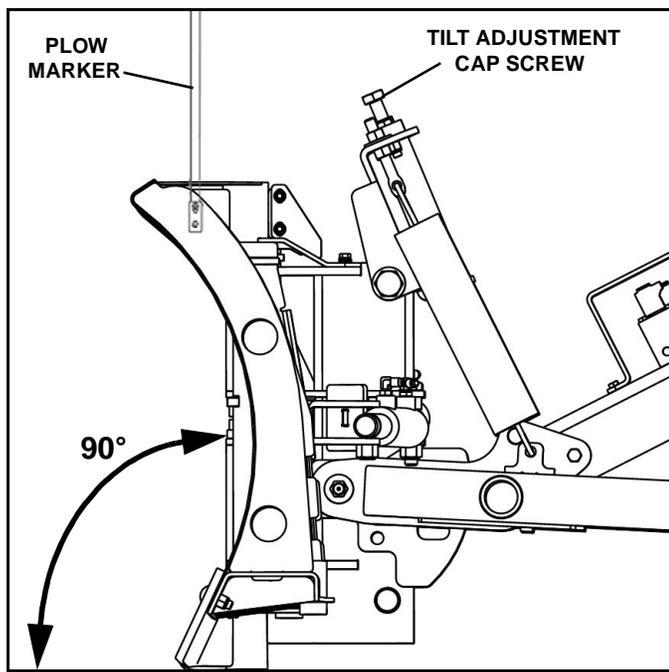

Figure 1-14
2. This plow is equipped with the MaxAdjust™ System (Patent pending). Adjust capscrew as required to position center of moldboard at a 90° angle to the ground. (See Figure 1-14).